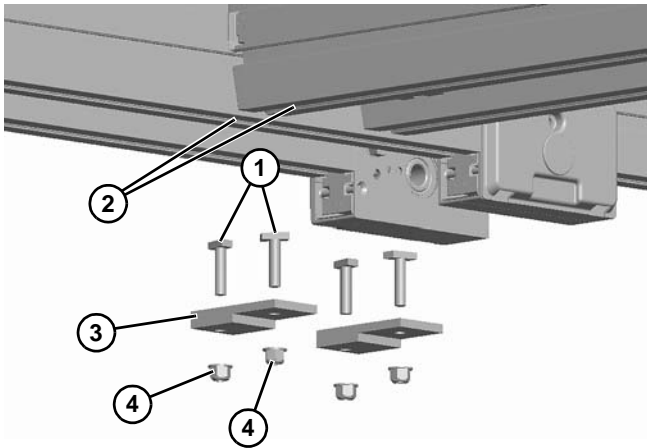

Figure 1
1. Install twist-in studs (**Figure 1, item 1**) into conveyor channels (**Figure 1, item 2**). Install tie bracket (**Figure 1, item 3**) over studs.
2. Thread lock nuts (**Figure 1, item 4**) onto studs and tighten.